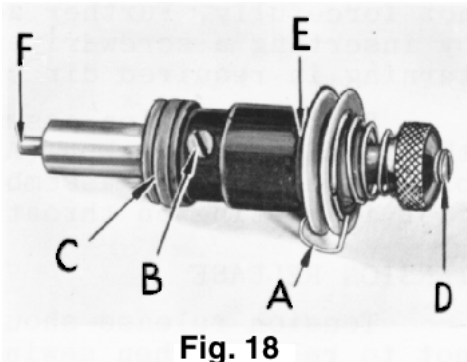

Fig. 18
Test check spring tension (A, Fig. 18). There should be enough tension to assure a good returning snap when the spring is depressed and released. Should it require adjusting, loosen set screw in head located under arm and to the right of tension assembly and remove tension assembly. Partially loosen tension post set screw (B) in tension post socket (C). Turn tension post (D) counterclockwise until check spring moves away from upper stop (E) and has no tension on it. Turn tension post (D) in a clockwise direction until spring again touches upper stop (E). Proceed further in same direction approximately 1/4 turn until desired tension is obtained. When correctly set, tension post set screw (B) should be drawn up snugly, yet not forcefully. Further adjustment of check spring tension can be made by inserting a screwdriver into slotted end of tension post (D) and turning in required direction.
Check the adjustment of tension assembly (A, Fig. 20) and check spring tension. There should be enough tension to insure a good returning snap when spring (B, Fig. 20) is depressed and released. The check spring tension is adjusted from about 1 to 1 1/4 ounces when measured with a postal scale, No. 21227DN, (C, Fig. 20). This is measured when the check is 1/32 to 1/16 inch from the stop. The tension post set screw should be drawn up snugly but not forcefully tightened (B, Fig. 18). The tension release pin should move freely in the tension post (D, Fig. 18). The check spring eyelet (B, Fig. 19), located just below the tension discs, should be set for correct height as follows: